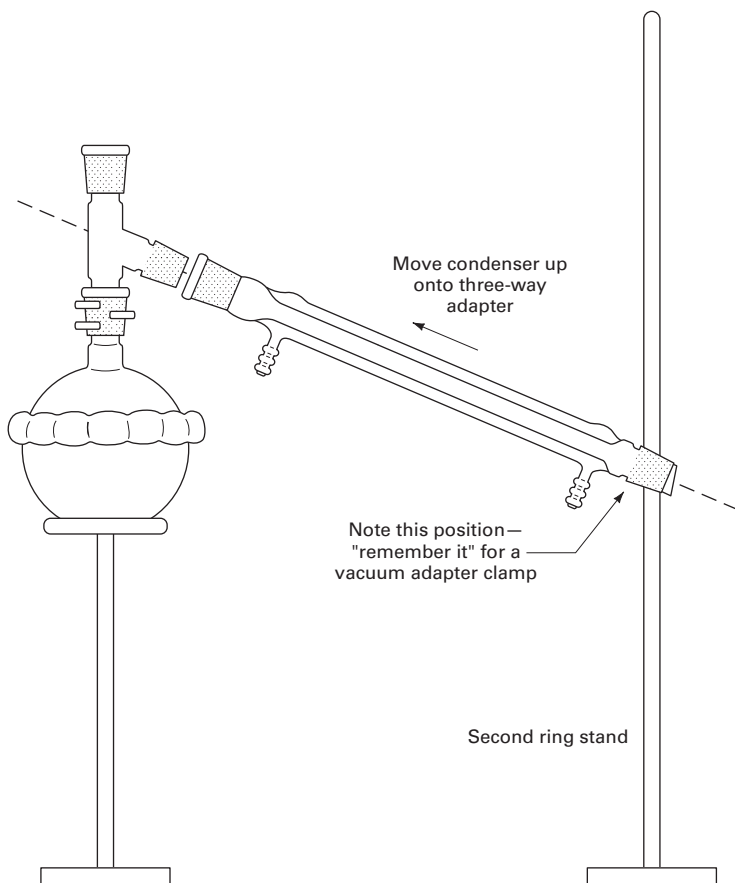

FIGURE 18.6 Trial fit for vacuum adapter.
5. Put a second ring stand about one condenser length away from the first ring stand. Now add the condenser, just holding it onto the three-way adapter. Make a mental note of where the inner joint (end) of the condenser is (Fig. 18.6)—you'll want to put a clamp about there. Remove the condenser.